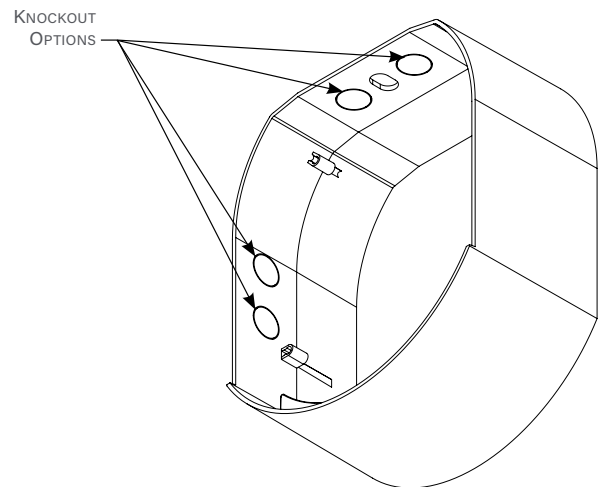

Figure 10
1. Each end cap has wiring knockout options (Figure 10).